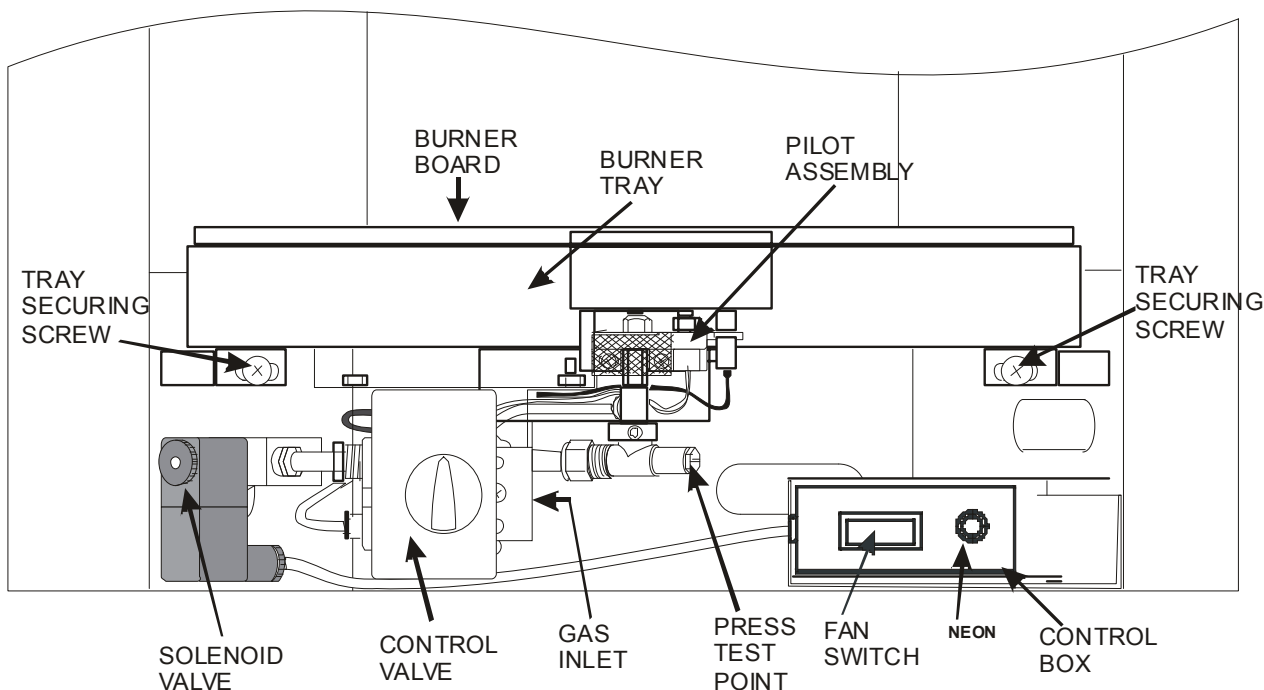

Figure 51 – Standard BM Control Model
3. Remove the pressure test point screw (see **Figure 51** for its location) and connect a pressure gauge to the test point.